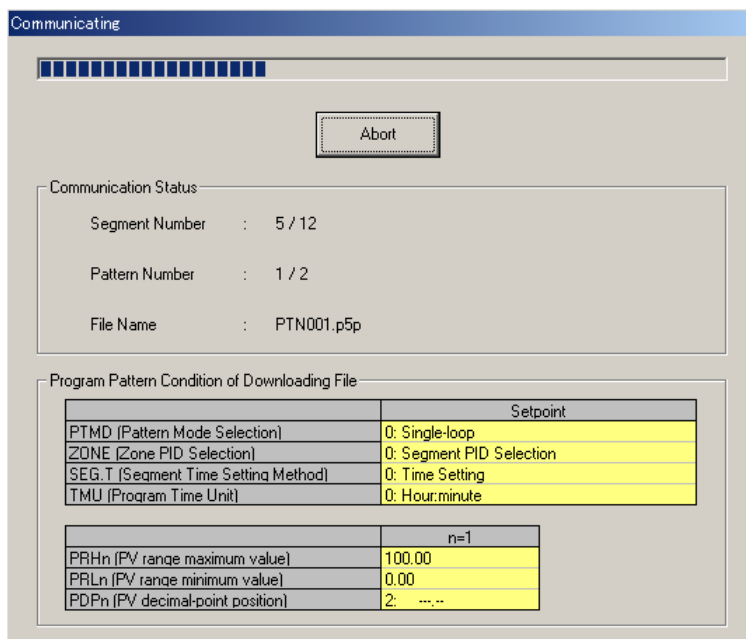

Figure 12.4.6 Communicating Dialog Box
- (5) After you set the communication conditions, click **OK**.
- (6) Following the instructions given by the message that appears, connect the controller.
- (7) When you are ready, click **OK**.
- (8) The Communicating dialog box (Figure 12.4.6) appears.